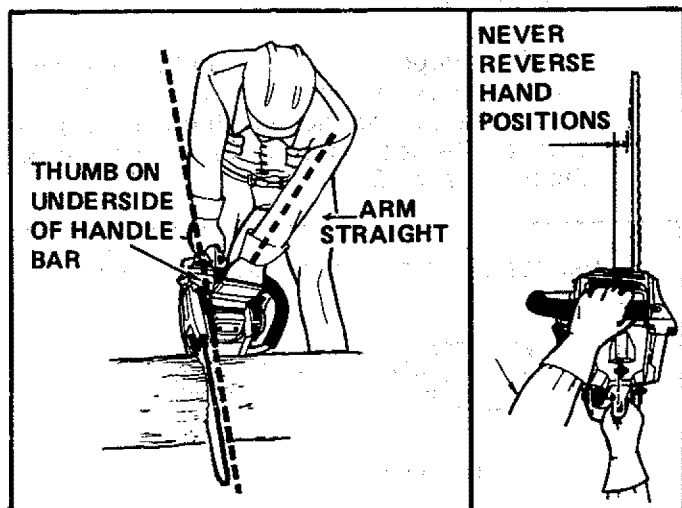

Figure 17
- a. Keep a good firm grip on the saw with both hands. Figure 17. A firm grip can neutralize kickback and help you maintain control of the saw. Keep the fingers of your left hand encircling and your left thumb under the front handlebar. Keep your right hand completely around the rear handle *whether you are right handed or left handed*. Keep your left arm straight with the elbow locked.
- b. Position your left hand on the front handlebar so it is in a straight line with your right hand on the rear handle. Figure 17. Never reverse right and left hand position.
- d. Stand slightly to the left side of the saw, to keep your body from being in a direct line with the cutting chain. Figure 17.